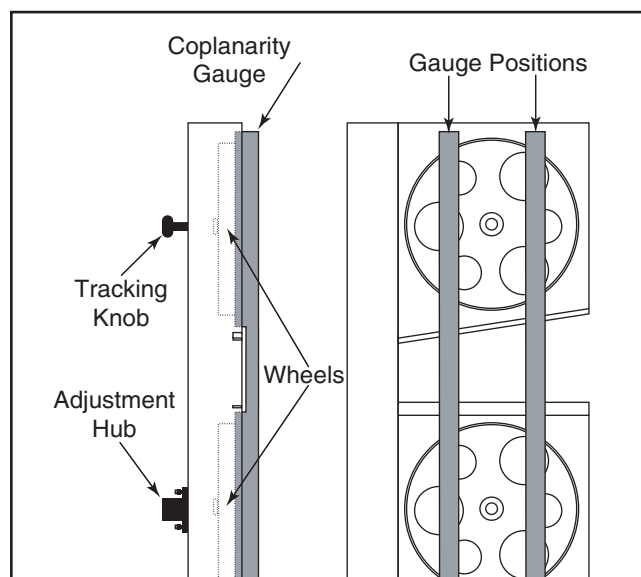

Figure 85. Checking for coplanarity.
7. Place your coplanarity gauge up against both wheels in the positions shown in **Figure 85**.